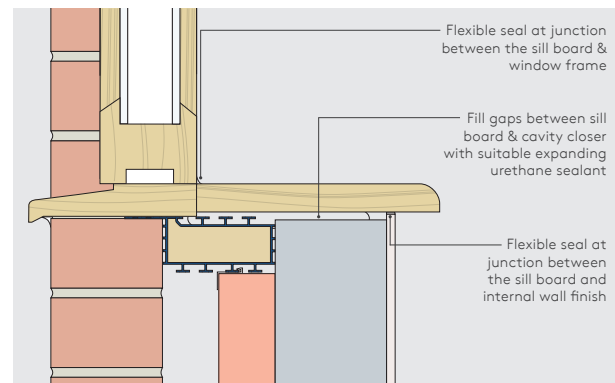

Figure 21: Oversailing window board
- Direct fixing of window boards to Kingspan Thermabate® alone will not suffice (Figure 21). Where an embedded tiled inner sill or threshold is required, the tees on the Kingspan Thermabate® casing form a key for cement bedding.